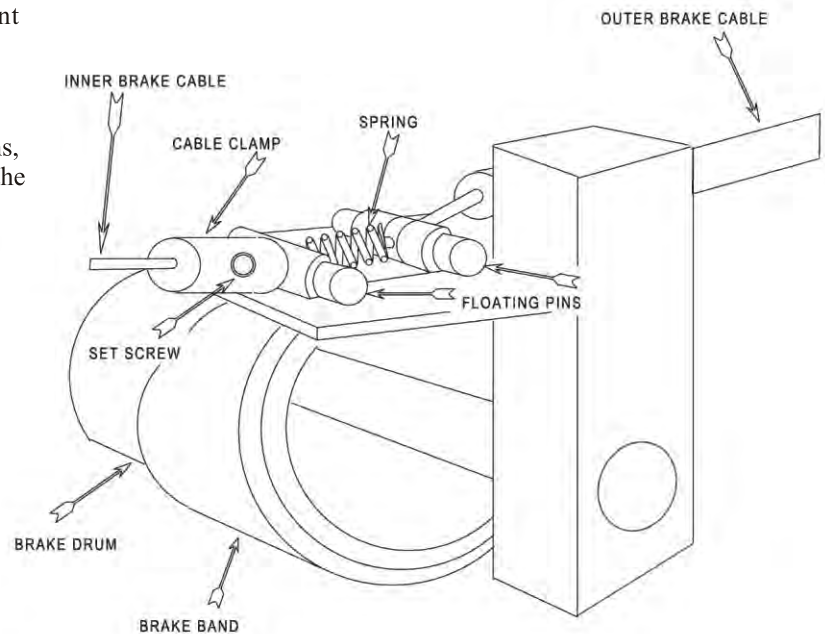

Fig.11 Brake assembly
- Loosen setscrew in cable clamp (see Figure 11).
- Tighten set screw in cable clamp (see Figure 11).